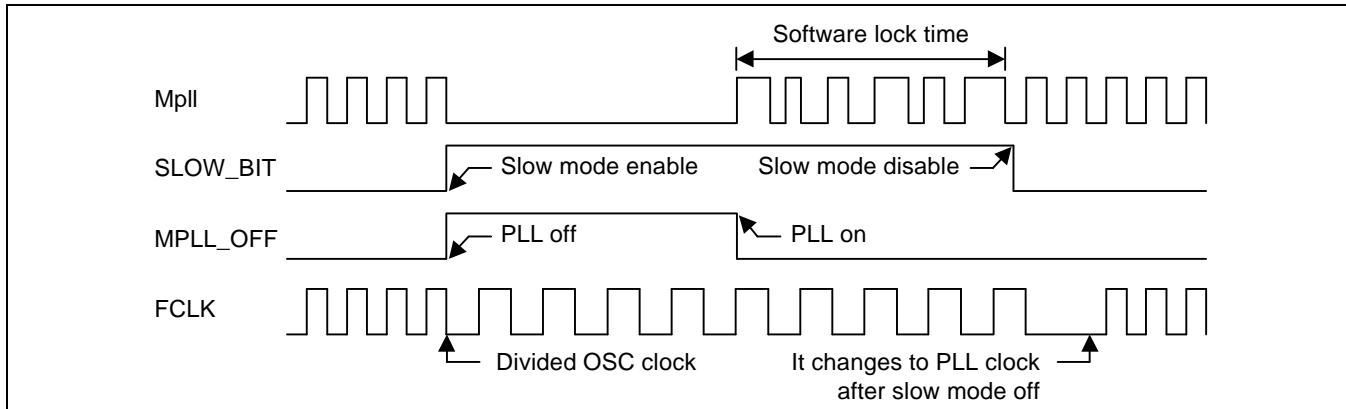

Figure 7-10. Issuing `Exit_from_Slow_mode` Command After Lock Time
11. CLOCK & POWER MANAGEMENT : 7-12 : Figure 7-10 : 01/20/2003